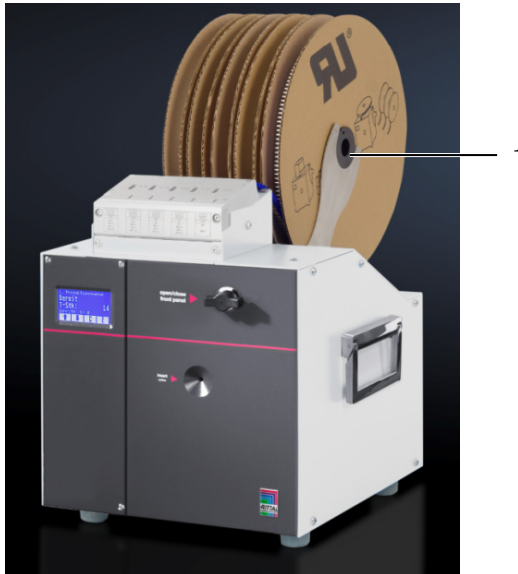

Fig. 6: Position of wire end ferrule reel
- Set up the wire end ferrule reel (fig. 6, item 1) so that an unrolling from bottom to front is ensured.